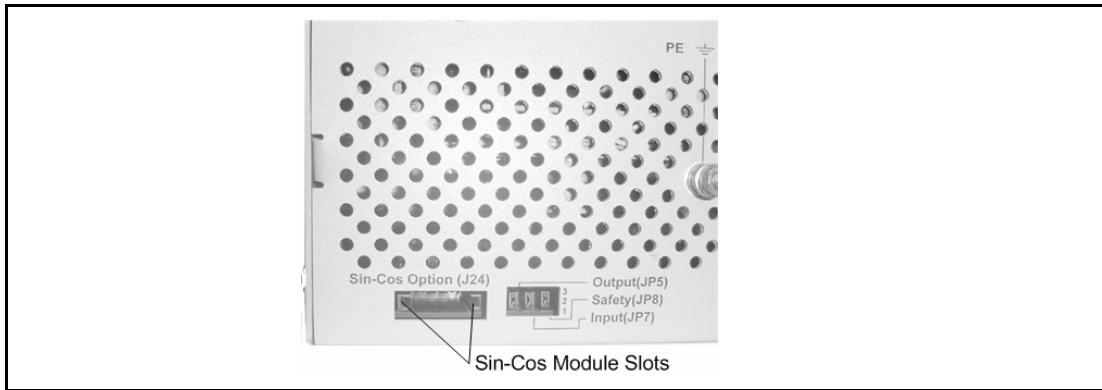

Figure 67 Location of J24 and Sin-Cos Module Slots
2. Locate the J24 Sin-Cos slot on the side of the CM unit. Figure 67 illustrates the location of J24.